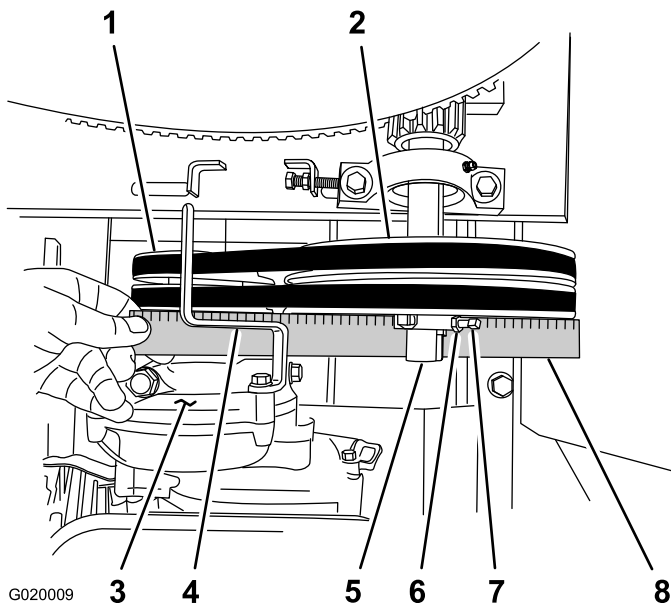

Figure 65
- D. Align a straightedge across the engine pulley and the idler pulley (Figure 65).
- E. If needed, pivot the engine on the engine deck until the engine pulley and the idler pulley are aligned to the straightedge (Figure 65).